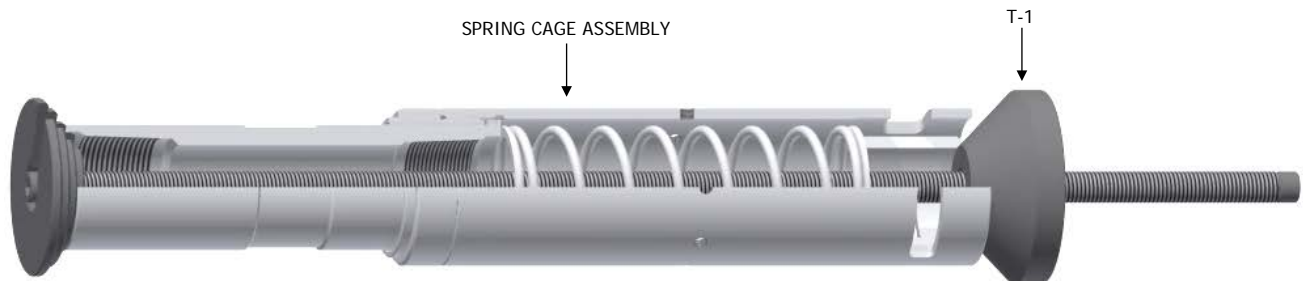

Fig. 4
K-1.1.3) Compress compression spring (4) with assembly tool (T-1) (Fig. 4).